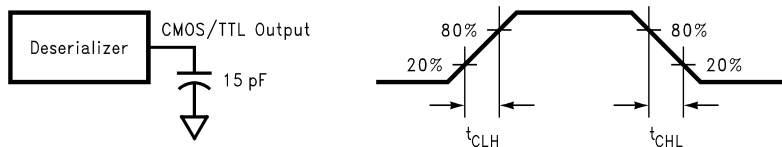

Figure 3. Deserializer CMOS/LVTTL Output Load and Transition Times
(2) Total Supply Current when Powered Down (I_{CCXR}) is higher than previous six channel devices because previous devices asserted ROUTn and RCLKn into tri-state upon loss-of-lock, whereas the SCAN926260 now asserts ROUTn and RCLKn HIGH upon loss-of-lock.
(3) t_{RDC} was specified by measuring the positive pulse on the RCLK and dividing this number by the ideal pulse width.
(4) t_{CLH} and t_{CHL} are Ensured by Statistical Analysis (EBSA). Please see Figure 3 for a graphical representation.